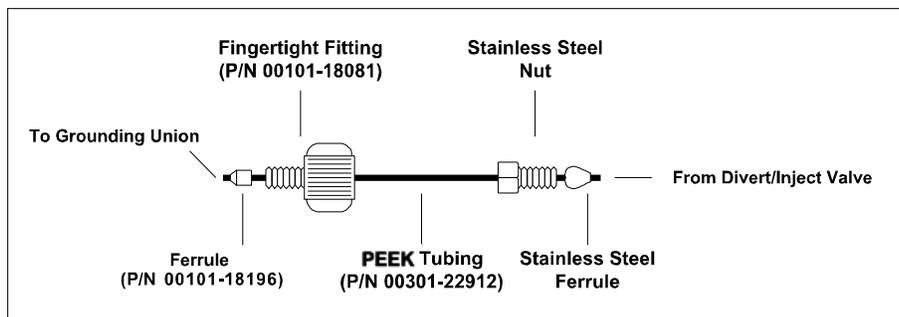

Figure 43. ESI/MS plumbing connections for the divert/inject valve and grounding union
2. Connect an appropriate length of (red) PEEK tubing (transfer line from the divert/inject valve) from the divert/inject valve to the (stainless steel) grounding union, as follows. See Figure 43.